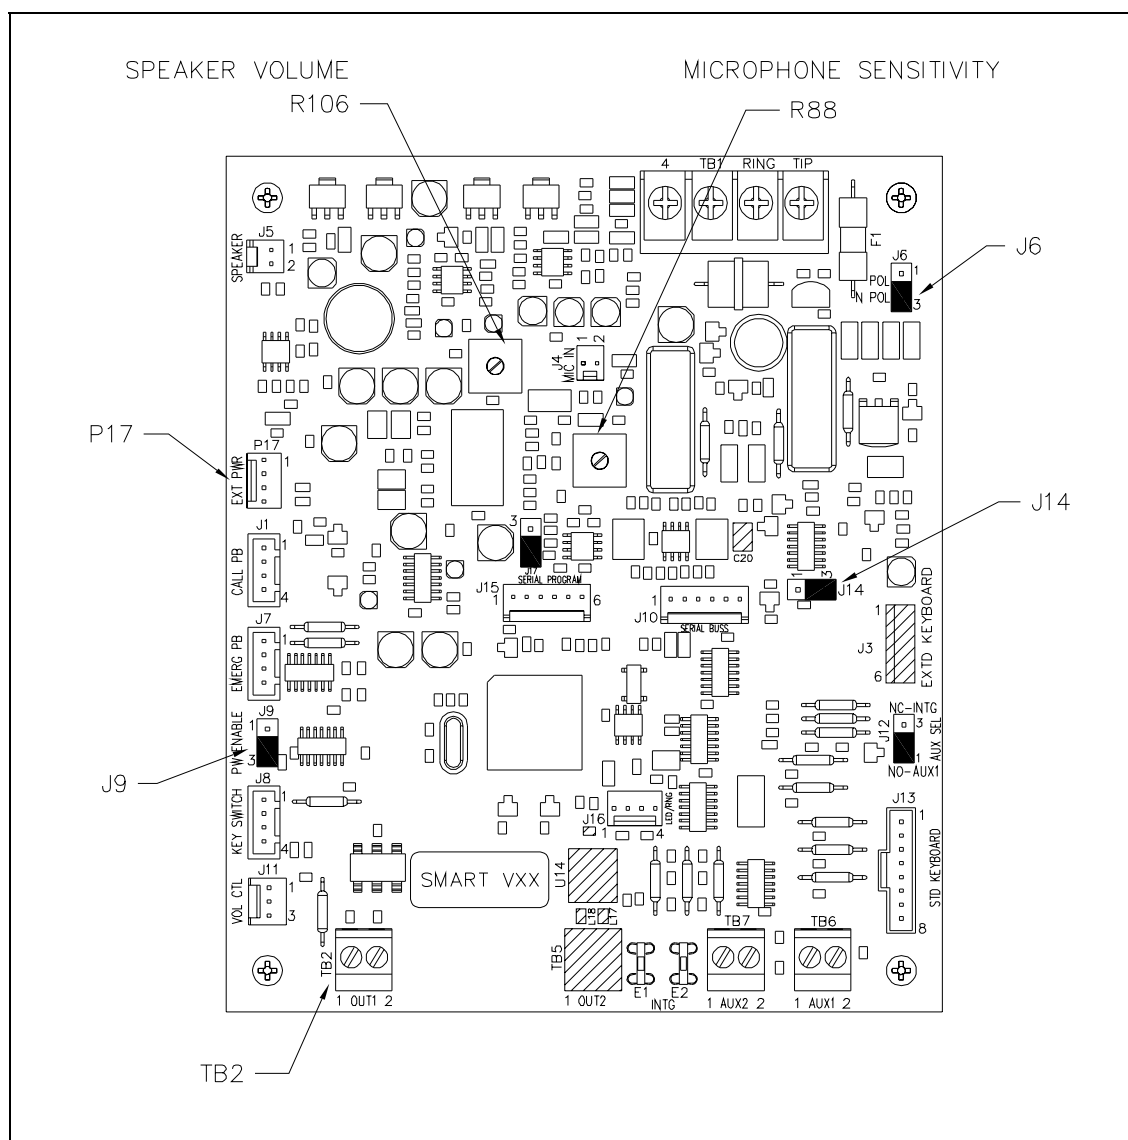

Figure 8. Emergency Phone PCBA
5. Connect the telephone's modular plug to a USOC RJ11 or CA11A (Canada) modular connector or (if applicable) the telephone line suppressor. Refer to Figure 8 for the component locations. Telephone line connections directly to TB1 are acceptable.
The hardware configuration options are explained in detail in the following sections, and the necessary jumper settings are identified to enable or disable each option. We recommend reading each section, recording the selected options, making the necessary changes, and creating a record of your settings. See Figure 8 on page 9 for the jumper locations.
The speaker volume and microphone sensitivity are factory set to nominal levels that are acceptable for most installations. However, some installations may require adjustments for the speaker and microphone. Both the speaker and microphone adjustments are made using potentiometers on the emergency phone PCBA. R106 is the speaker volume adjustment, and R88 is the microphone sensitivity adjustment. Refer to Figure 8 for the potentiometer locations.
Each telephone includes one isolated solid state switch capable of switching a maximum of 48 V dc, 125 mA or 28 V_{RMS} ac, 80_{RMS} mA. TB2 (OUT1) on the emergency phone PCBA provides the connections for the auxiliary output. Refer to Figure 8 for the location of TB2.